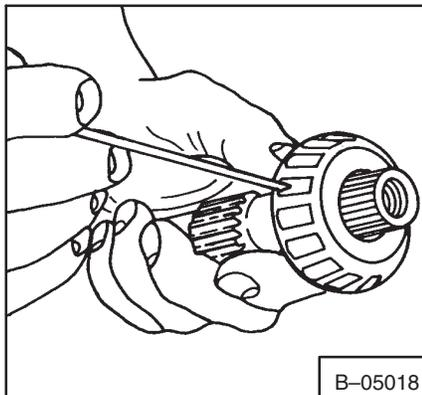

Fig. 3-119 Checking Bearing
- Check the bearings for wear and heat damage (Fig. 3-119). Check the bearing spacers for sharp edges.